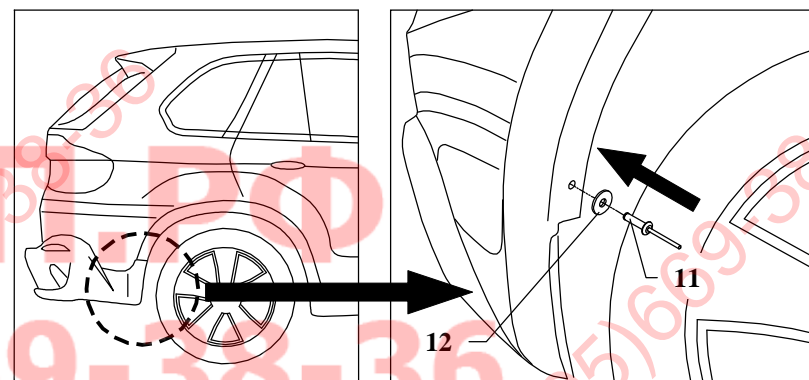

Fig. 2
4. Install the bumper after cut out the fragment in its axis (width 55mm and depths 90mm). For the purpose of installings of the bumper use rivets (pos. 11) and washers (pos. 12) from the towing hitch accessories (see fig. 2).